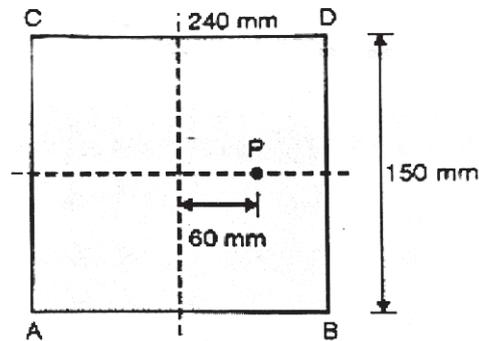

Fig 5
- Q7) a) A rectangular column of  $240\text{mm} \times 150\text{mm}$  is subjected to a vertical load of  $10\text{KN}$  placed at an eccentricity of  $60\text{mm}$  in a plane bisecting  $150\text{mm}$  side as shown in fig.5. Determine the maximum and minimum intensities in the section. [10]